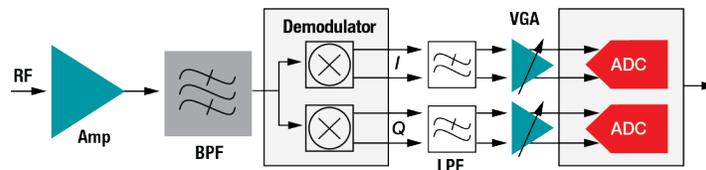

Figure 1. Typical Complex Mixer Architecture
- Will you use a zero intermediate frequency (IF)/complex mixer architecture (Figure 1)?